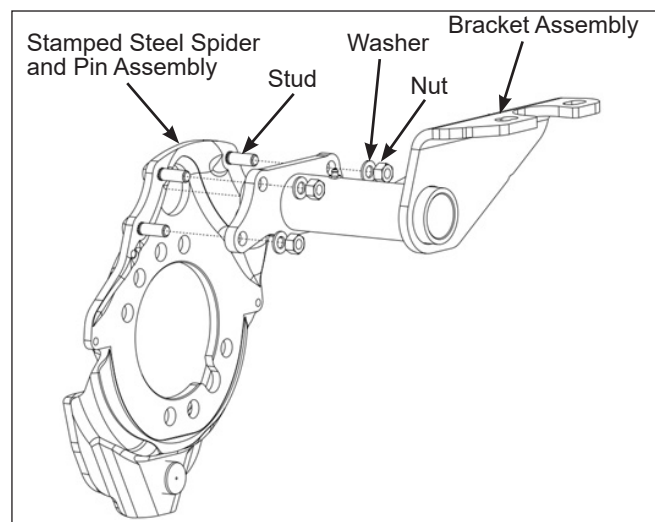

Figure 31 – S-Cam Bracket Removal
3. Remove the attaching fasteners and pull the air chamber bracket away from the spider. **NOTE:** On 16.5-in. diameter brakes with stamped spiders, the air chamber bracket-to-spider "ribbed" studs are pressed into the spider. Their removal is not required to remove the air chamber bracket (do not attempt to remove these studs from the spider). See Figure 31. If a stud is damaged or broken, the spider should be replaced.